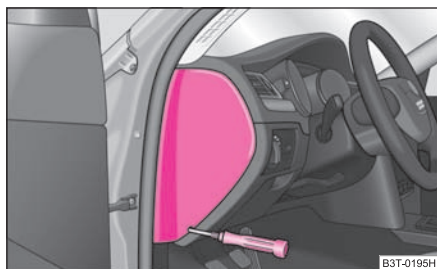
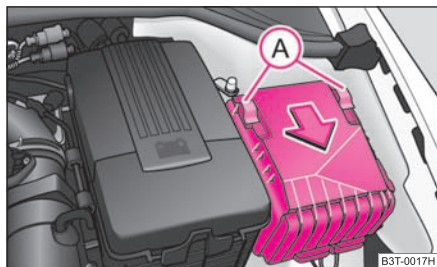

Fig. 212 Fuse cover: left side of the dash panel
Fig. 213 Fuse cover in engine compartment
- Use a screwdriver to take off the fuse cover on the side of the dash panel ⇒ fig. 212 or the fuse cover in the engine compartment ⇒ page 242, fig. 213.
- Move the circlips (A) ⇒ fig. 213 as far as the stop, the symbol  appears behind the circlip and remove the cover.